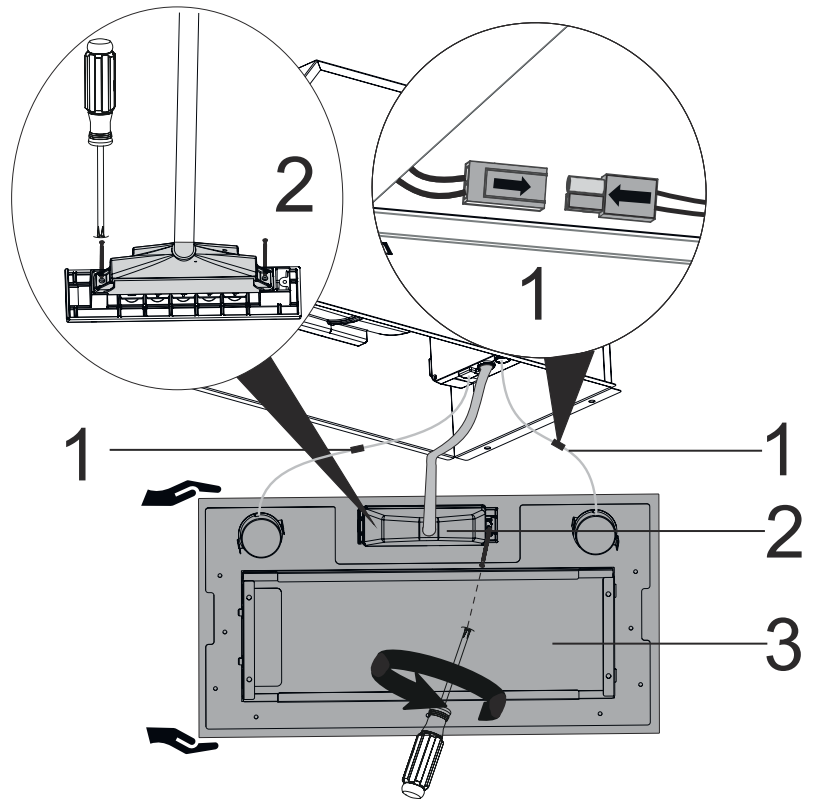

Fig. 15
- 1 – To remove the stovetop light, disconnect the lamp base (Fig. 15), connected to your device.
- 2 – To remove the control panel key, unscrew 1 screw from the key cover, open the key cover, then unscrew 2 screws from the key (Fig. 15)